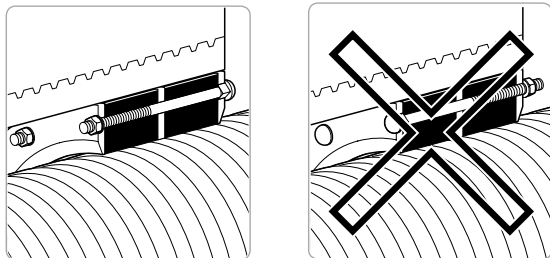

Figure 20: Correct and Incorrect Wall Seal Installations
- To ensure no damage to the Ecoflex jacket, tighten the nuts of the Uponor Wall Seal until the rubber seal wraps around the Ecoflex jacket pipe and the core hole, or if used, the Wall Sleeve. **Figure 20** illustrates the correct and incorrect way to install the Wall Seal.